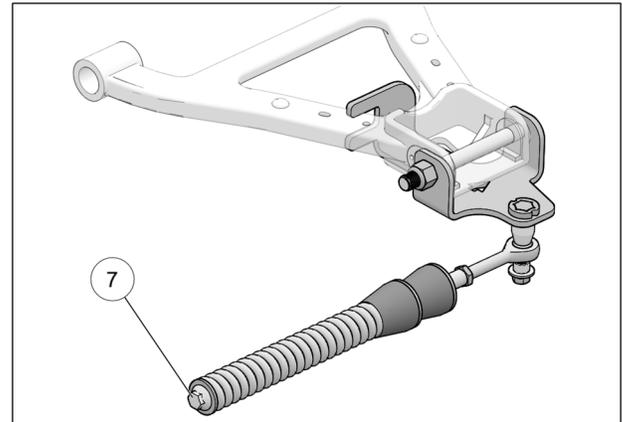

Fig. 15
15. Verify that spring assembly bolt (7) is tightened to the recommended torque specification: 75 N•m [55 lb•ft]. Refer to Fig. 15